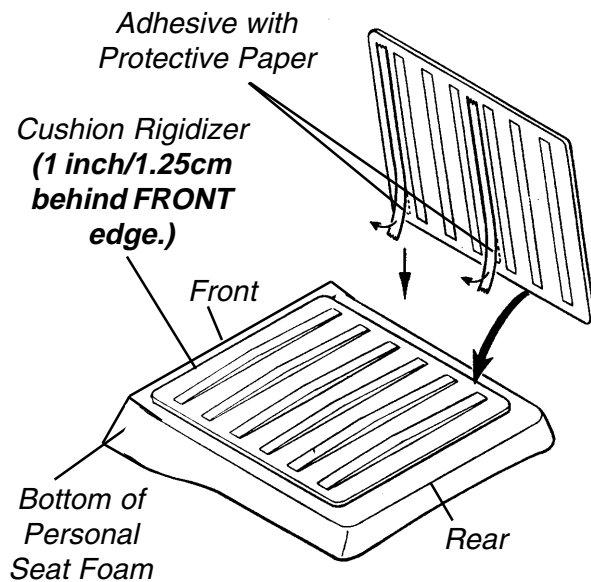

FIGURE 2 - INSTALL RIGIDIZER
3. Place the surface of the Cushion Rigidizer with adhesive tape against the bottom of Personal Seat cushion (FIGURE 2).
4. Place Cushion Rigidizer 1 inch (1.25cm) from **FRONT** edge of the Personal Seat Foam while centering it on the left and right sides (FIGURE 2).
6. After marking the placement area, remove the protective paper from the adhesive on the the Cushion Rigidizer and install Rigidizer onto the bottom (**under-side**) of the Personal Seat Foam (FIGURE 2).
7. Press down firmly to adhere the Cushion Rigidizer to the Personal Seat Foam (FIGURE 2).